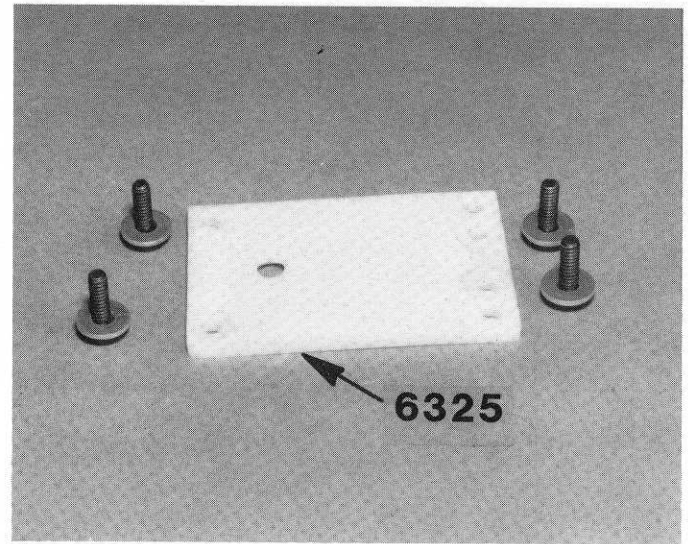
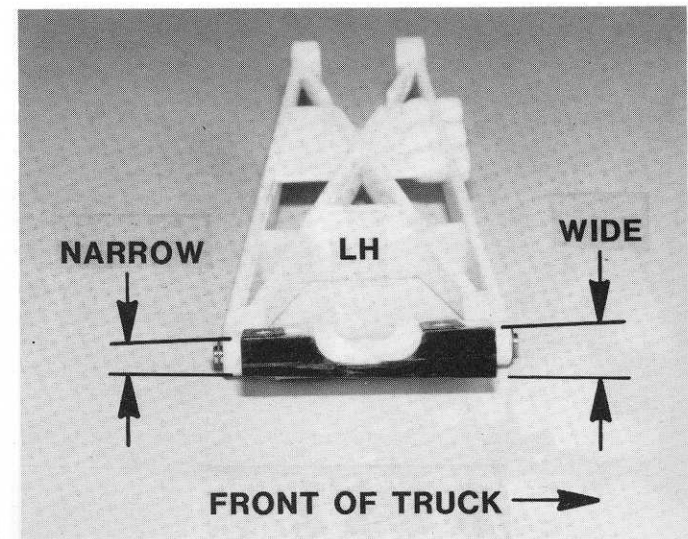

**Fig. 79**
**Fig. 85**
□ **Figs. 79 & 80** Install the rear bulkhead in the chassis, as shown, with the two #6280 8/32 x 1/2" aluminum screws and two #6925 4/40 x 1/2" SHCS screws. Do not tighten these four screws yet. We need to be able to shift the bulkhead slightly. We tighten the screws later in fig. 85.
□ **Fig. 85** Lightly snug all the screws in figs. 79, 80, 81, 82, and 83. Now go back and tighten all those screws, being careful again not to overtighten the ones in plastic.